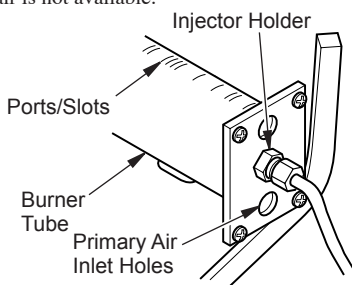

Figure 38 - Injector Holder On Outlet Burner Tube
2. Inspect burner, pilot, and primary air inlet holes on injector holder for dust and dirt (see Figure 38, page 25).